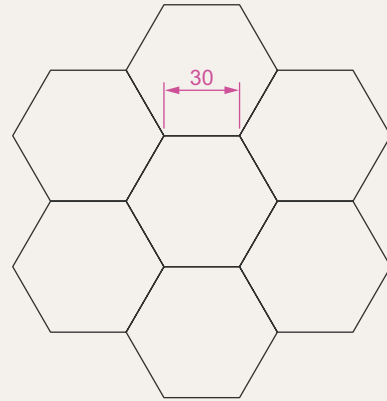

Fig. 3.50 Exercise 7
7. Fig. 3.50 shows seven hexagons with edges touching. Construct the inner hexagon using the **Polygon** tool, then with the aid of the **Edge** prompt of the tool, add the other six hexagons.